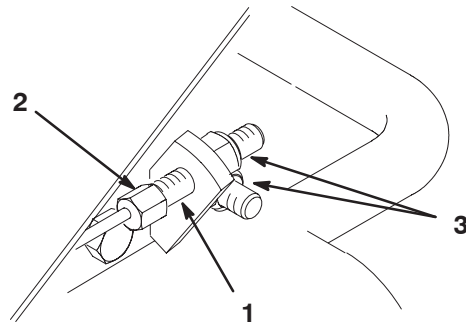

Figure 50
1. Tension the cable by securing the cable end hex with an open end wrench and turning the nut on the cable end with another wrench (Fig. 50).